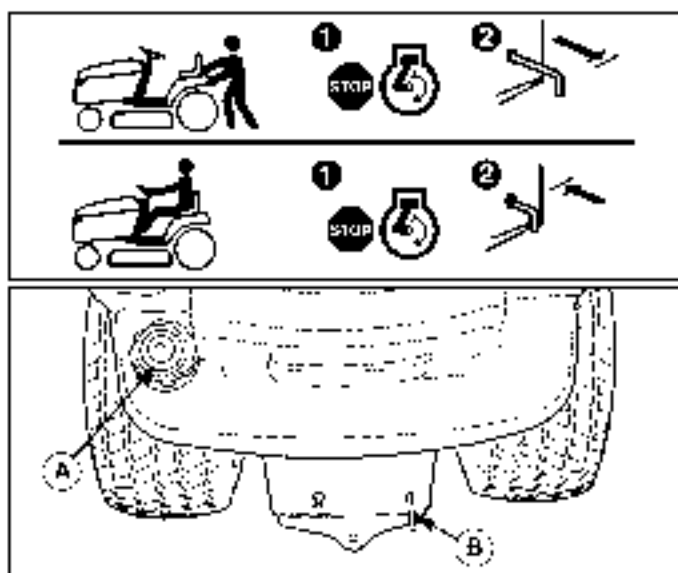

Figure 5. Transmission Release Lever & Fuel Tank
2. Put the transmission release (B, Figure 5) back approximately 2-3/8" (6 cm) to lock into released position.